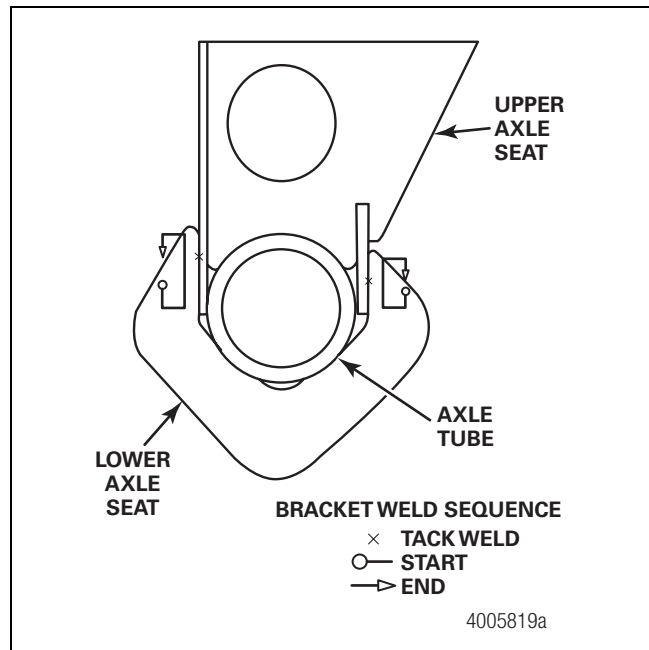

Figure 26
- Tack weld each side of the lower axle seats. Verify that the lower axle seats measure 41-7/8-inches (1064 mm) from inside flange-to-inside flange. Figure 26.
- Weld the lower axle seats onto the upper axle seats. When the weld has cooled, remove the bolts and inner metal sleeves. Figure 26.